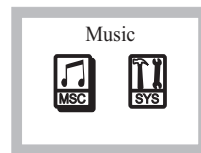

Fig. 17
- (K) Enter the Main Mode: USB flash drive not inserted or press & hold STOP button during playback.
- (1) Music Mode: Insert USB flash drive and press PLAY/PAUSE to play music, Fig. 17.